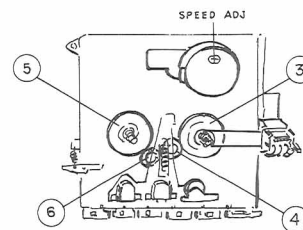

Fig. 15
1) Clean the right-side reel rubber outer surface, or replace the reel disc ass'y (Fig. 15 ③).
2) Clean the fast forward idler, or replace the fast forward idler ass'y ④.